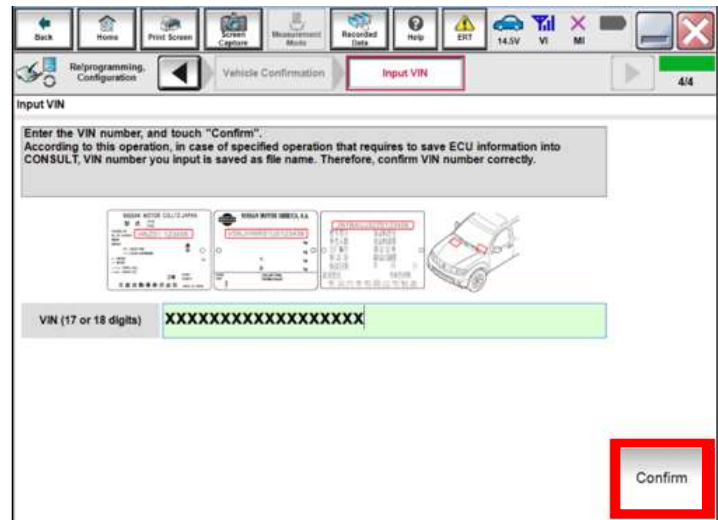

Figure 18
20. Confirm VIN is correct and select **Confirm**. (Figure 18)